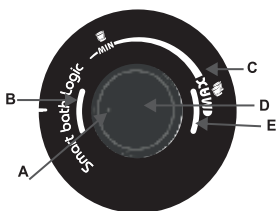

Fig. 2
Drain lever (L) is provided to drain the water heater only in case of servicing as shown in Fig.2. To avoid deposition of lime in the safety valve, please move the lever (L) up and down few times once in a 6 month.
In case of safety-valve dripping during normal use, connect a discharge pipe (P) as shown in Fig.2. This will happen only if the pressure inside the tank reaches beyond rated pressure limits.